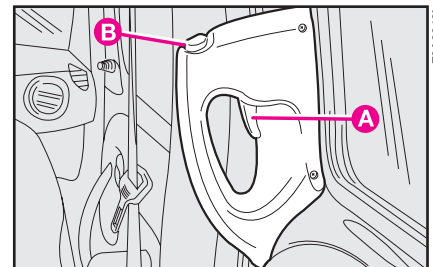

fig. 112
**Opening:** pull the release lever A-fig. 112 and make the door slide backward.